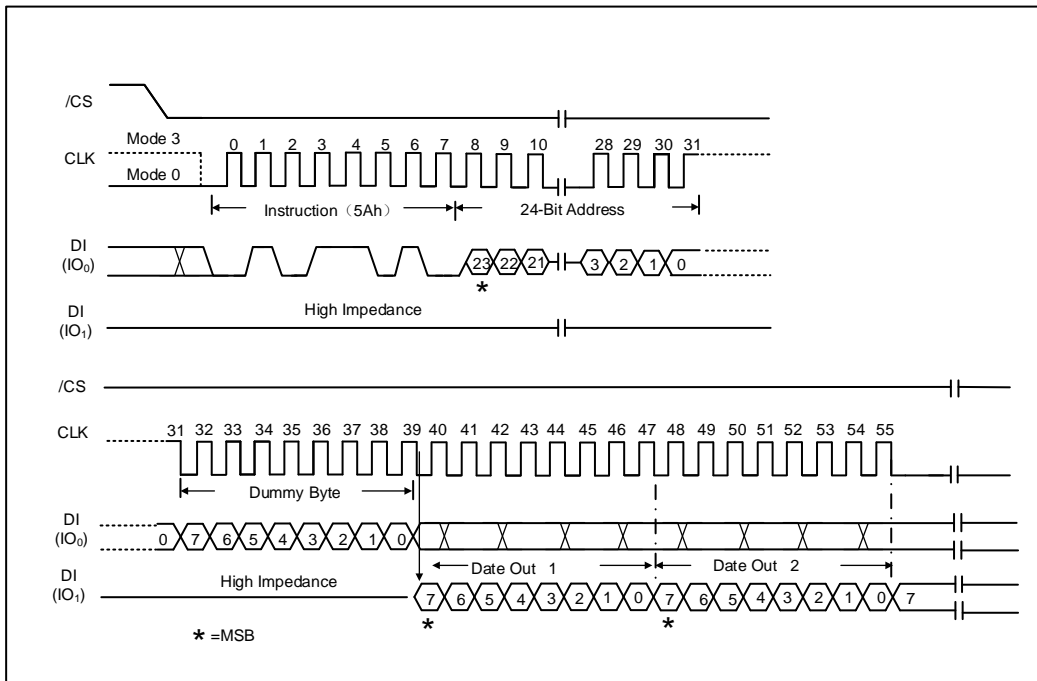

Figure 34. Read SFDP Register Instruction Sequence Diagram (Only SPI Mode)
The Read SFDP instruction is initiated by driving the /CS pin low and shifting the instruction code “5Ah” followed by a 24-bit address (A23-A0)(1) into the DI pin. Eight “dummy” clocks are also required before the SFDP register contents are shifted out on the falling edge of the 40th CLK with most significant bit (MSB) first as shown in Figure 34. The byte address is automatically incremented to the next byte address after each byte of data is shifted out. The last byte address of the register is FFh (the data will always be FFh when read after the last address), For SFDP register values and descriptions, please refer to the XMC Application Note for SFDP Definition Table.